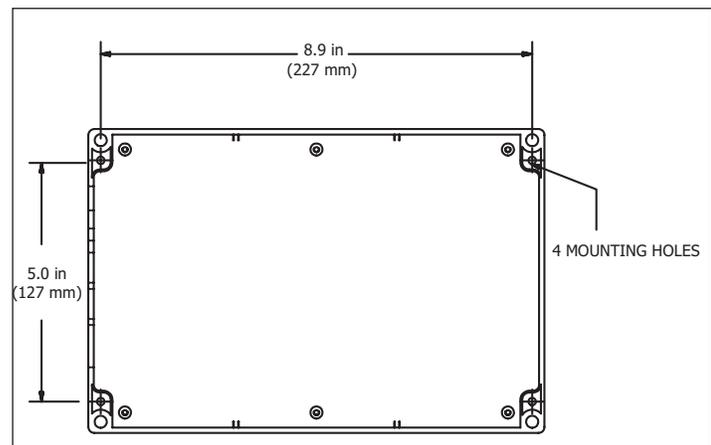

Fig. 2
The ADC100 control may be mounted directly to a wall. To mount, remove the cover and locate the (4) mounting holes. Using the hole-pattern shown below, mount the control using #6 screws. See Fig. 2, Once it is attached, wire the unit in accordance with Chapter 4.